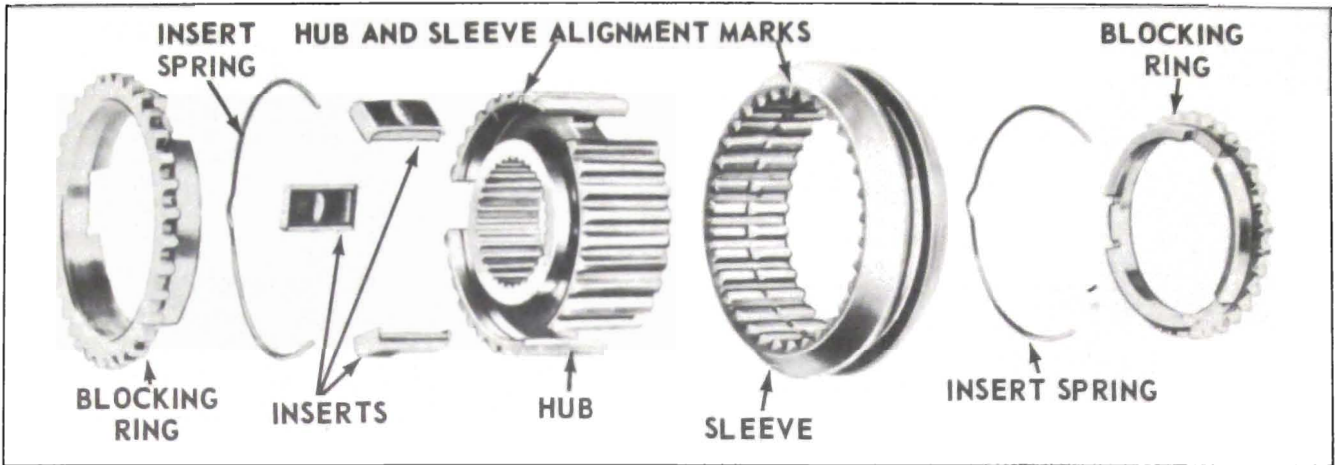

Figure 4-20—Exploded View of 2nd - 3rd Synchronizer
NOTE: Make certain that all three insert slots are fully covered. See Figure 4-20.
b. With alignment marks on hub and sleeve aligned, start hub onto sleeve. See Figure 4-20.
(See Figure 4-20). Push assembly together.
d. Install remaining insert spring so that spring ends cover same slots as does other spring. See Figure 4-20.